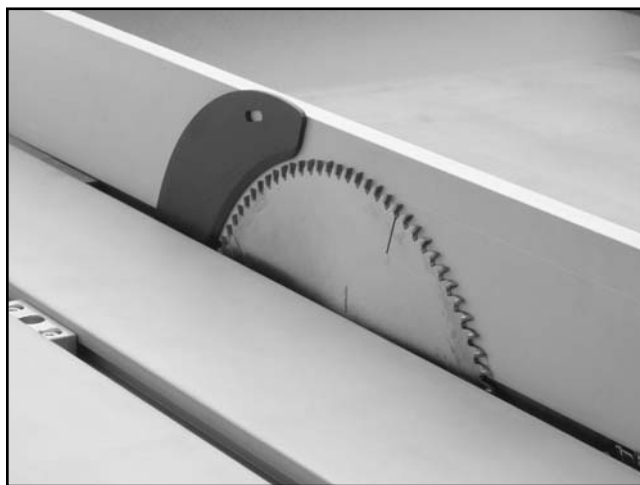

Figure 64. Fence against blade as a guide for aligning the scoring blade.
2. Remove the stop bolt from the rip fence, and move the rip fence against the main blade (or scoring blade) as shown in **Figure 64**.
3. Use the control panel to move the scoring blade so that the rip fence can touch both the scoring blade and the main blade when positioned as shown in **Figure 64**.